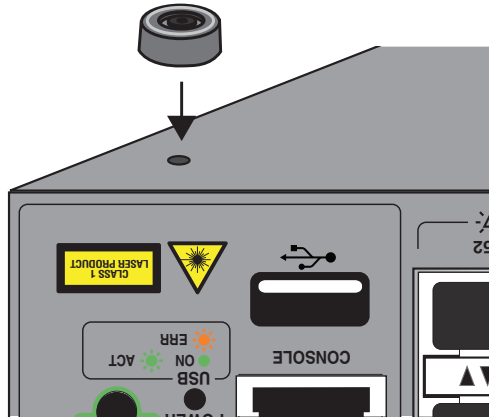

Figure 22. Placing the Bumper Foot on a Base Corner Hole
3. Place the bumper foot with rivet housing onto one of the holes in the base of the switch. Refer to Figure 22.